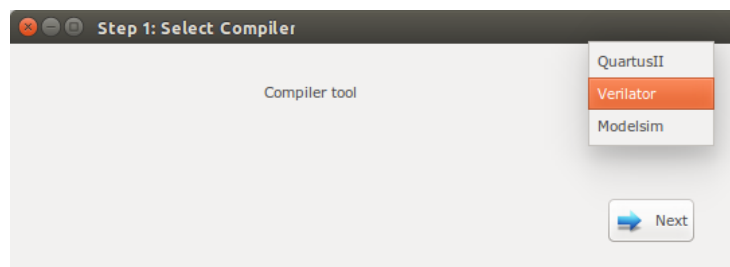

Figure 5.17: Select Verilator compiler.
1. Press the  Compile RTL button in right down corner. This should open "select compiler window" as shown in Figure 5.17. Select Verilator as compiler tool then press  Next.